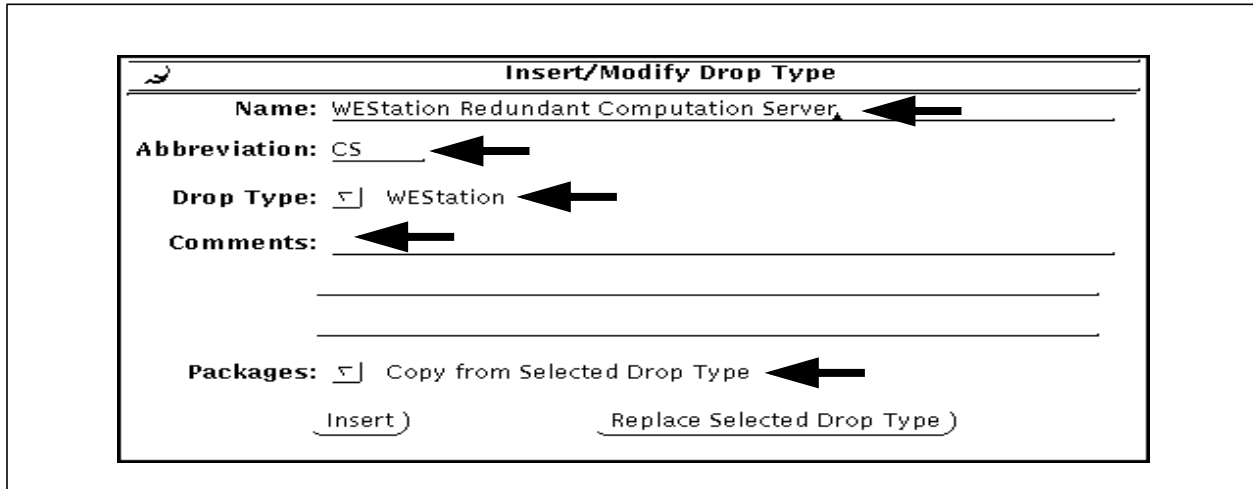

Figure A-4. Insert/Modify Drops Type Window
4. Select the **Insert/Modify** button. The **Insert/Modify Drop Type** window will appear with the selected drop type name in the Name entry field (Figure A-4 illustrates this window and Table A-1 describes the functions).